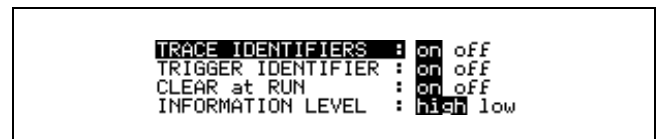

Figure 6-13. Startup Menu Window
1. From the User Options menu, press **F1** (MORE OPTIONS), and open the STARTUP MENU window (see Figure 6-13).